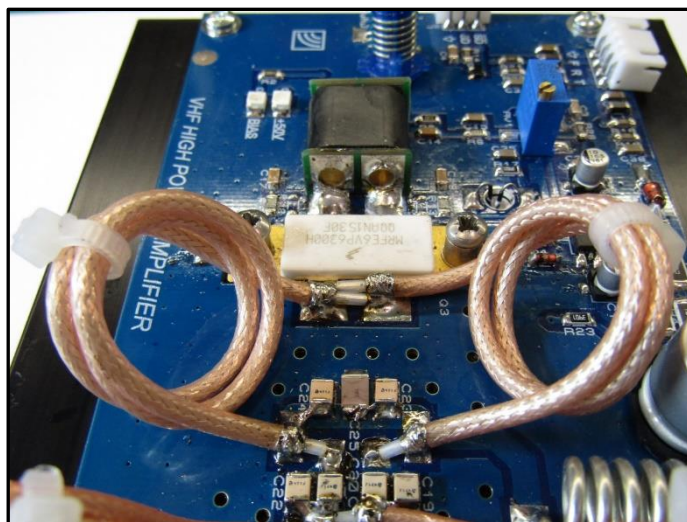

Figure 8: Transistor coax position.
12. Form two opposing coils with the coax and solder to pads near C19, 20, 21 & C22 as shown in figure 8. Secure the coils with two cable ties and lift the coils slightly away from the PCB.